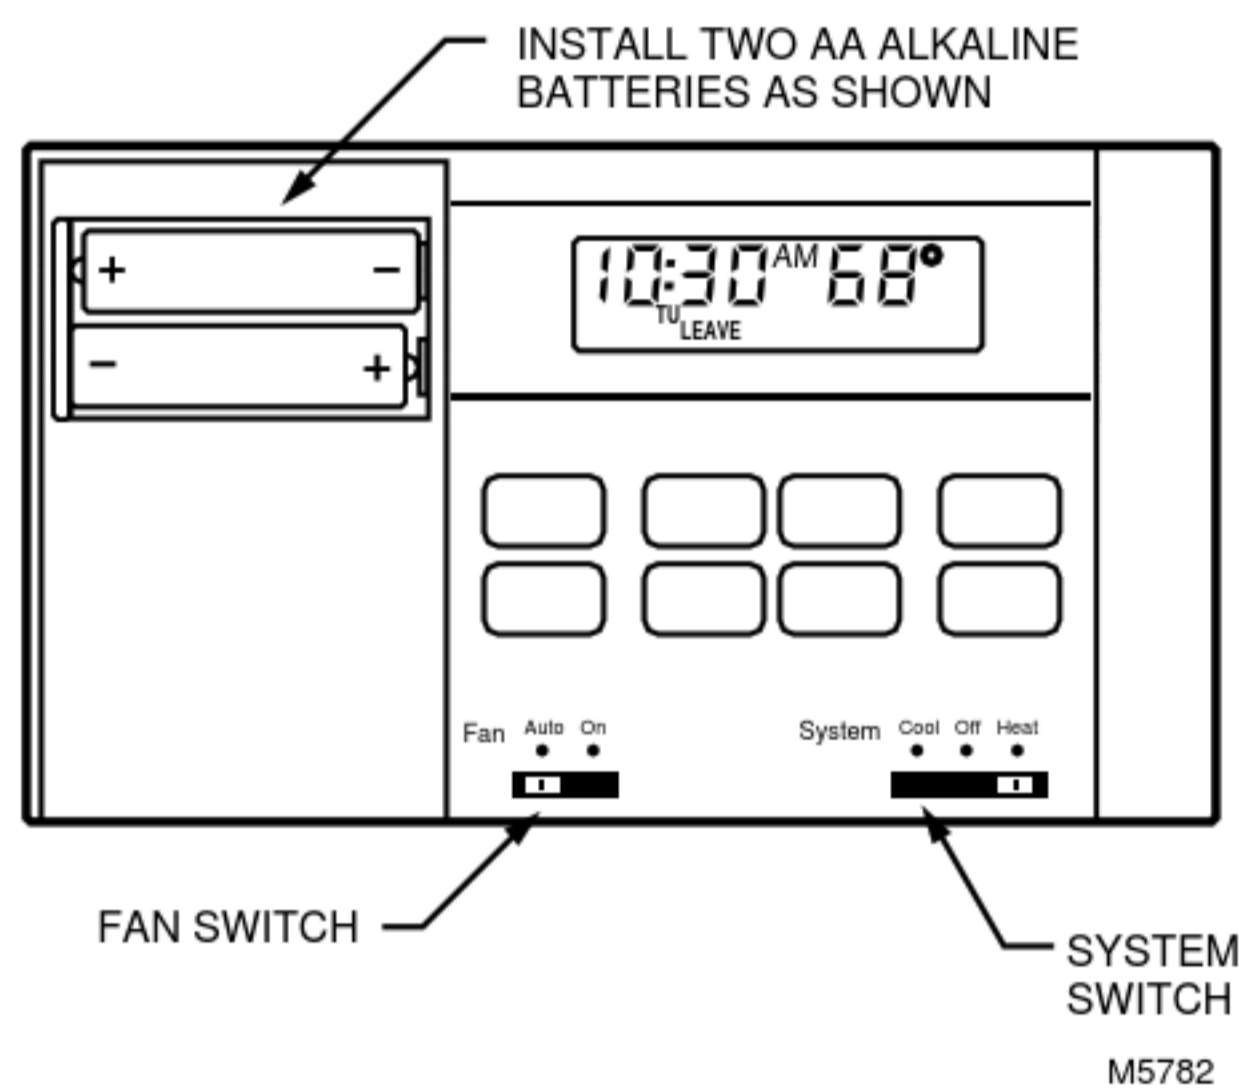

Fig. 11. Installing batteries.
4. Install the new batteries as shown, making sure positive and negative terminals are oriented correctly (see Fig. 11).